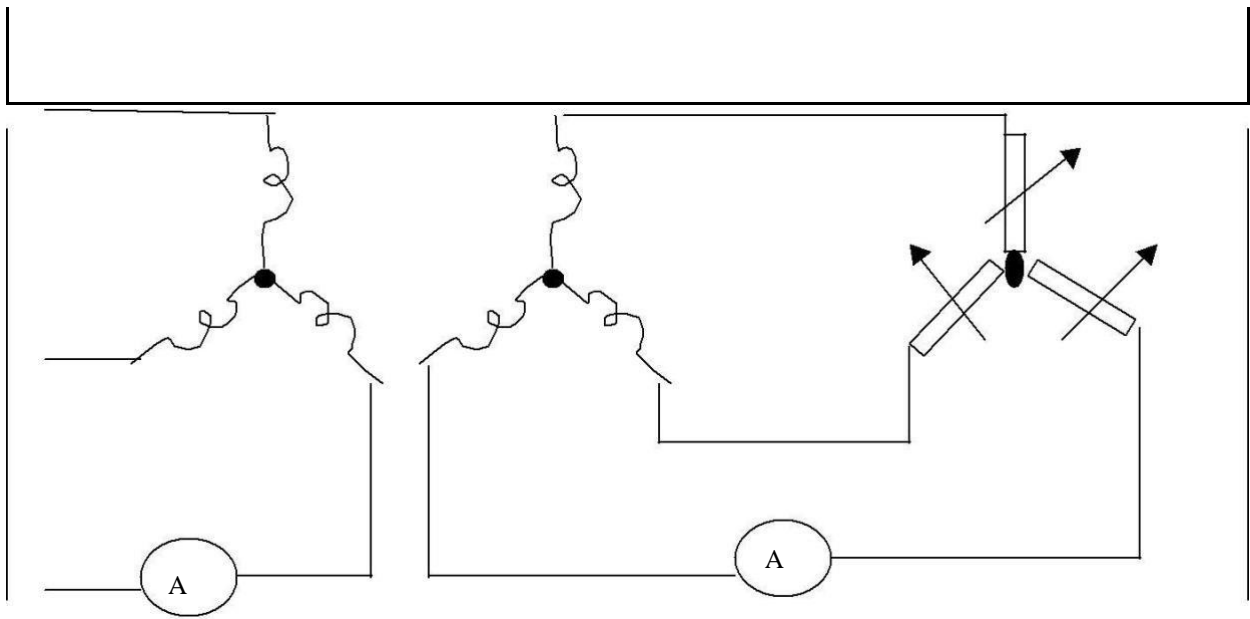

FIG.2
- D. For direct-on -line starting , connect the cage motor as shown in FIG.2